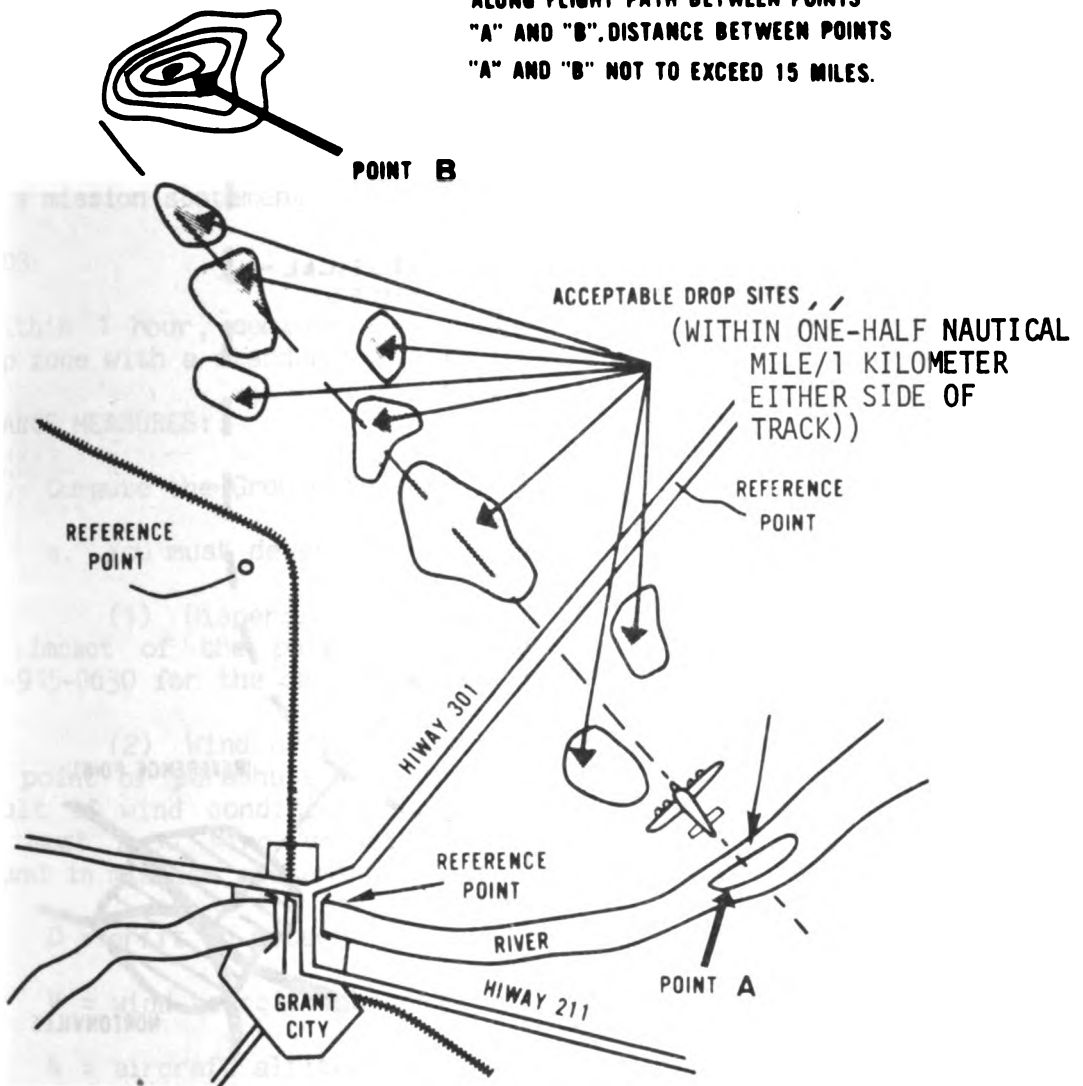
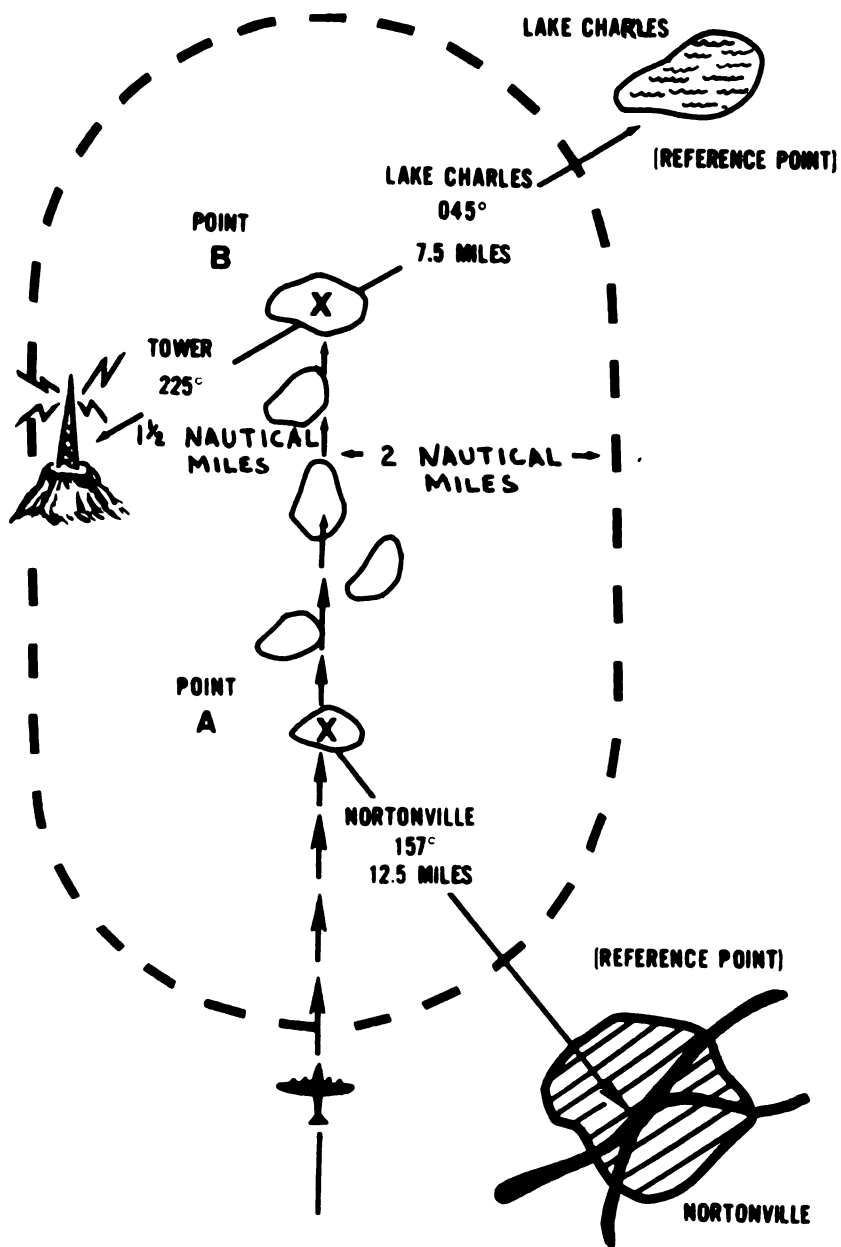

Figure 5. Area DZ (reference points).
Figure 6. Obstacles and reference points (area DZ).
a. Selection. An area DZ consists of a prearranged flight tract over a series of acceptable drop sites. This establishes a line of flight between two points, "A" and "B" (fig. 5).
(1) The distance between these points should not exceed 15 miles and should have no major changes in ground
(1) Locations of both point "A" and point "B," including reference points (fig. 5), must be identified.
(2) The open quadrant is not reported.
(3) If you are in a field environment, obstacles over 91 meters above the level of the terrain along the line of flight, within 2 nautical miles on either side, and not shown on the issued map (fig. 6), are identified in reference to either point "A" or point "B."